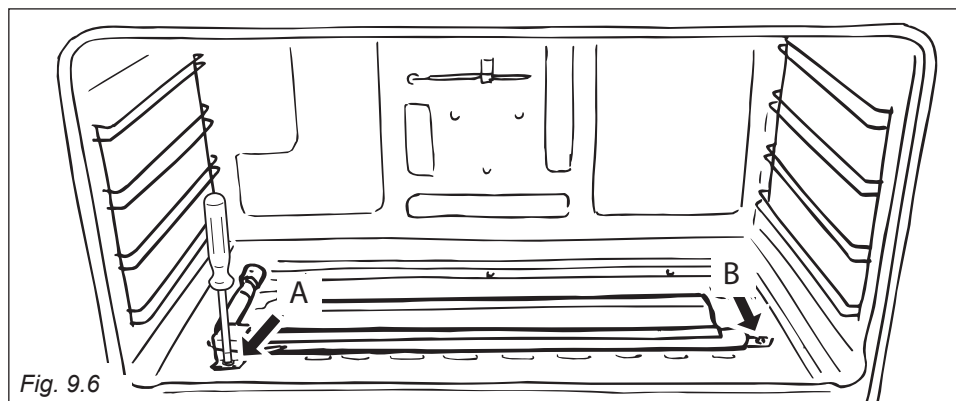

Fig. 9.6
- Unscrew and remove the burner securing screw “A” (fig. 9.6).
- Slacken screw “B” (fig. 9.6).